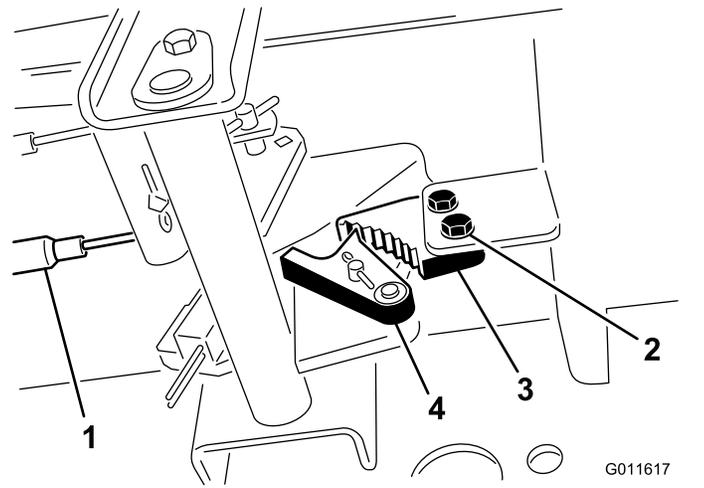

Figure 110
3. Press the parking-brake pedal forward until the brake detent completely engages on the brake pawl (Figure 110).
2. Loosen the 2 screws securing the parking-brake pawl to the frame (Figure 110).